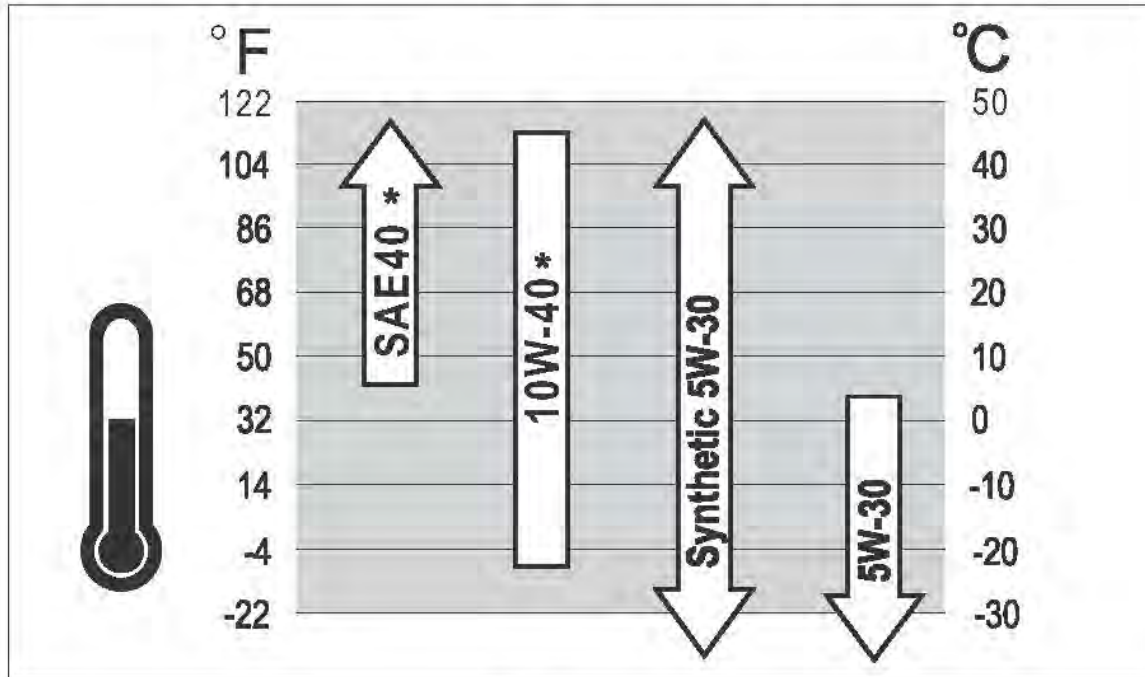

Fig 14
- Outdoor temperatures determine the proper oil viscosity for the engine. Use the chart to select the best viscosity for the outdoor temperature range expected.(see Fig 14)